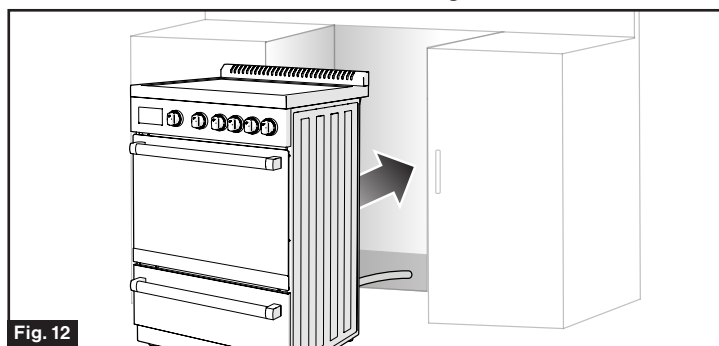

Fig. 12
1. Move the range close enough to the cutout to allow proper electrical connections. See "Electrical Connections" section for detail. (Fig. 12)